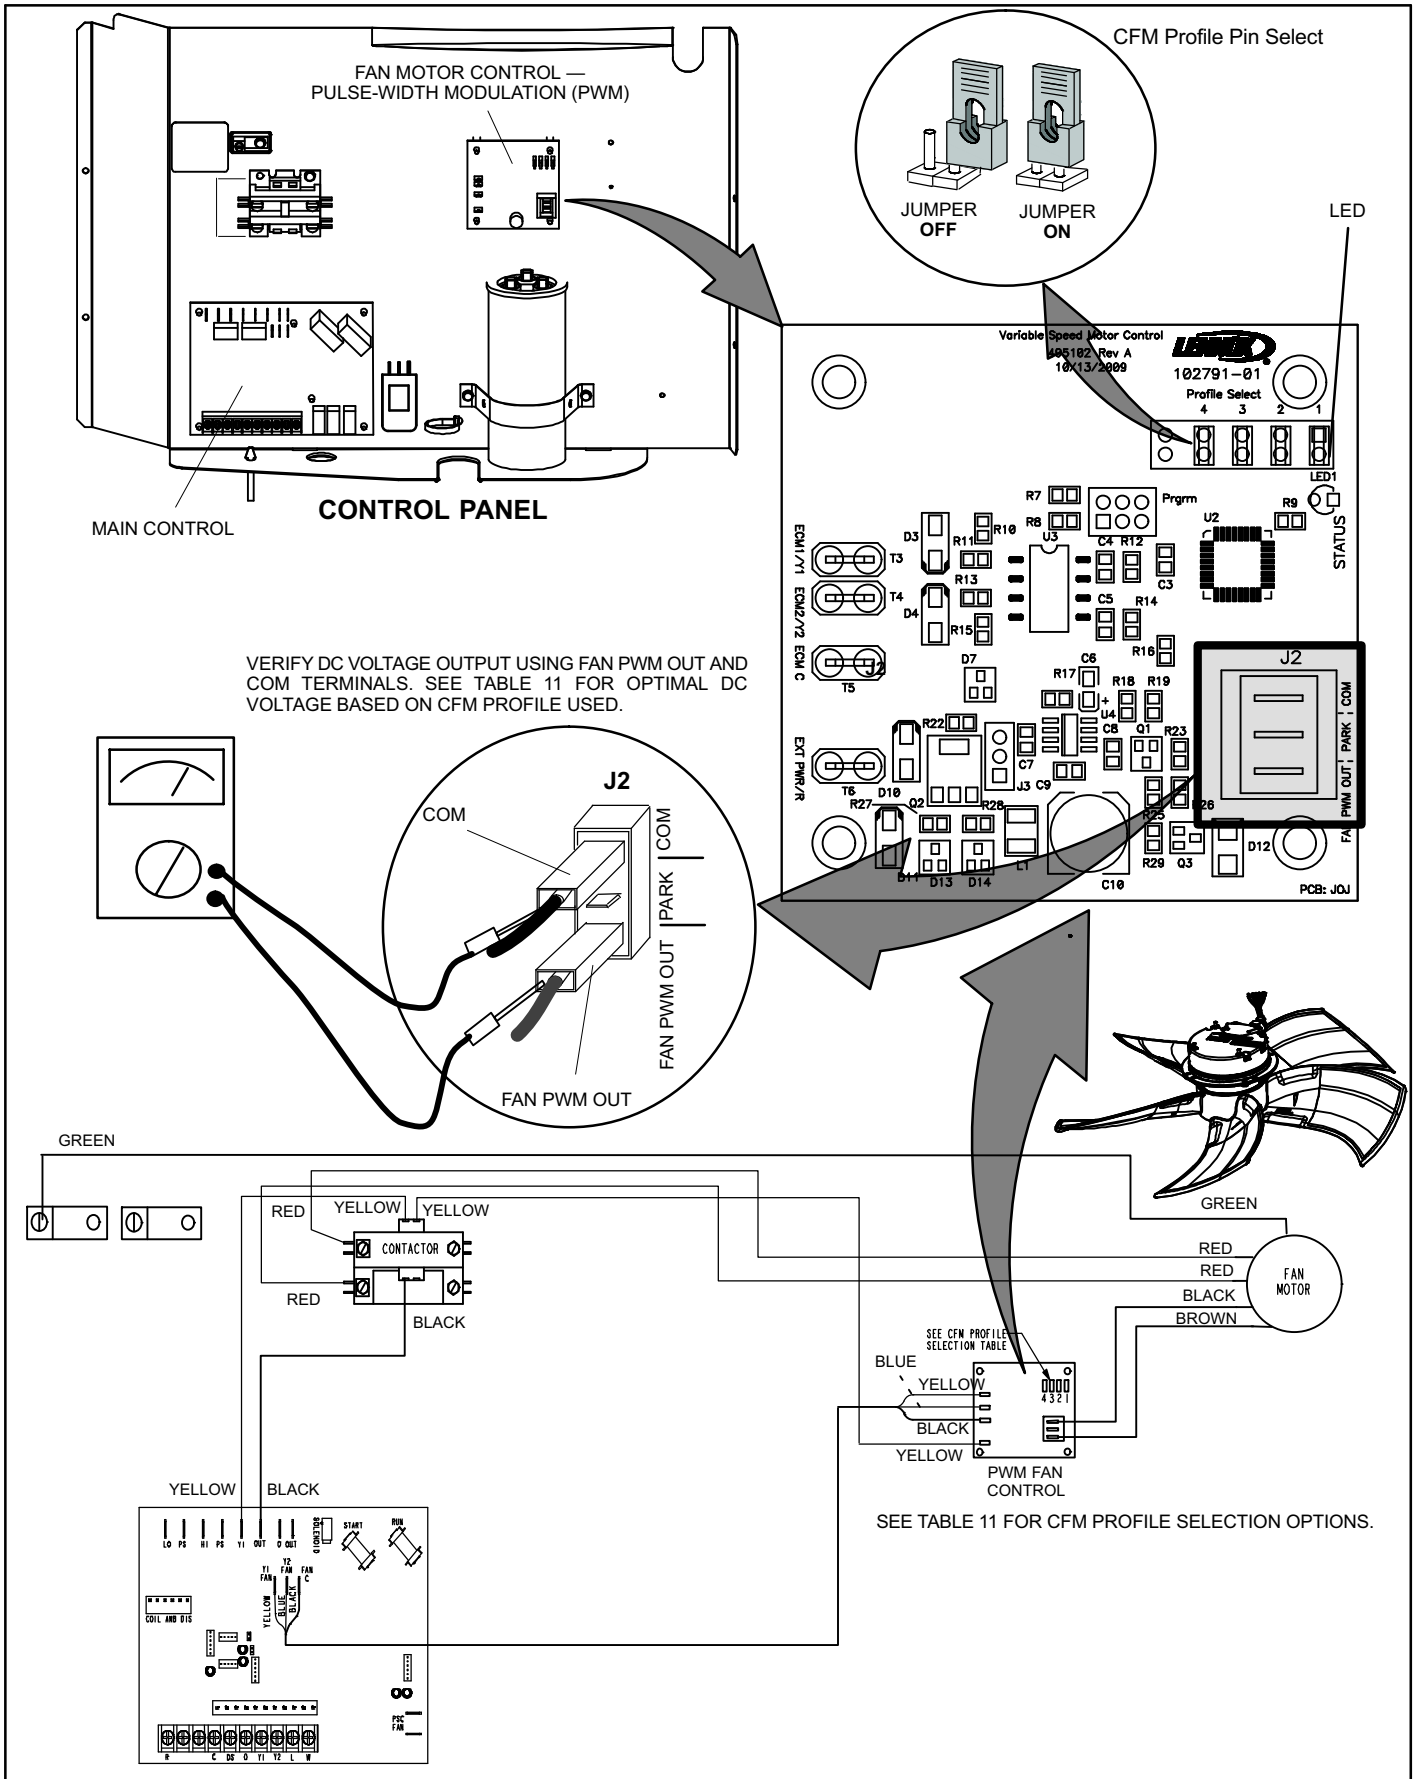

Figure 23. Fan Control, Wiring, Jumper Settings, Testing and LED Location
3. Test DC voltage output on the Motor Control's J2 terminals (see Figure 23) while under full load and verify the voltage read to the voltage listed in Table 11 for the applicable size unit.